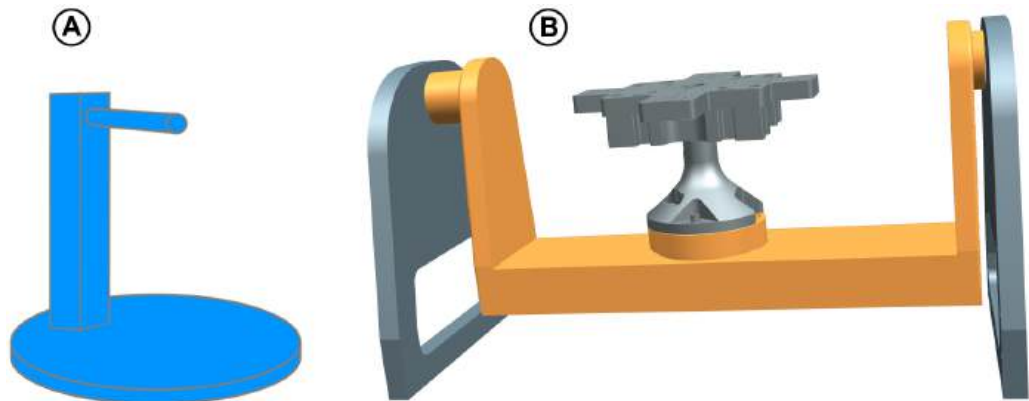

Figure 4-145: OTA positioner types
3. Select one of the types of "Coordinate System" for your positioning system (Figure 4-145):